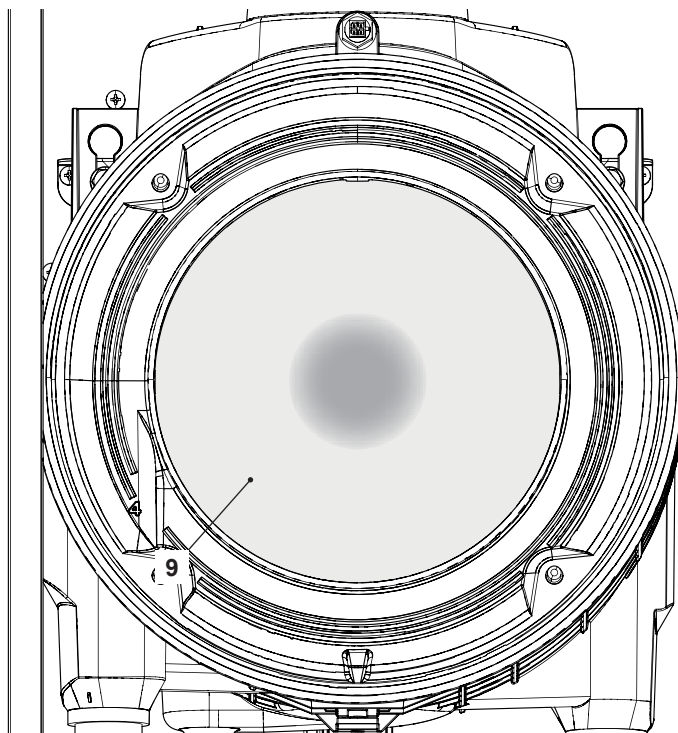

Figure 17.6
- 2 Remove the insulation "9" by pulling it towards the boiler front (Hung it with a screwdriver tip) (Figure 17.6).